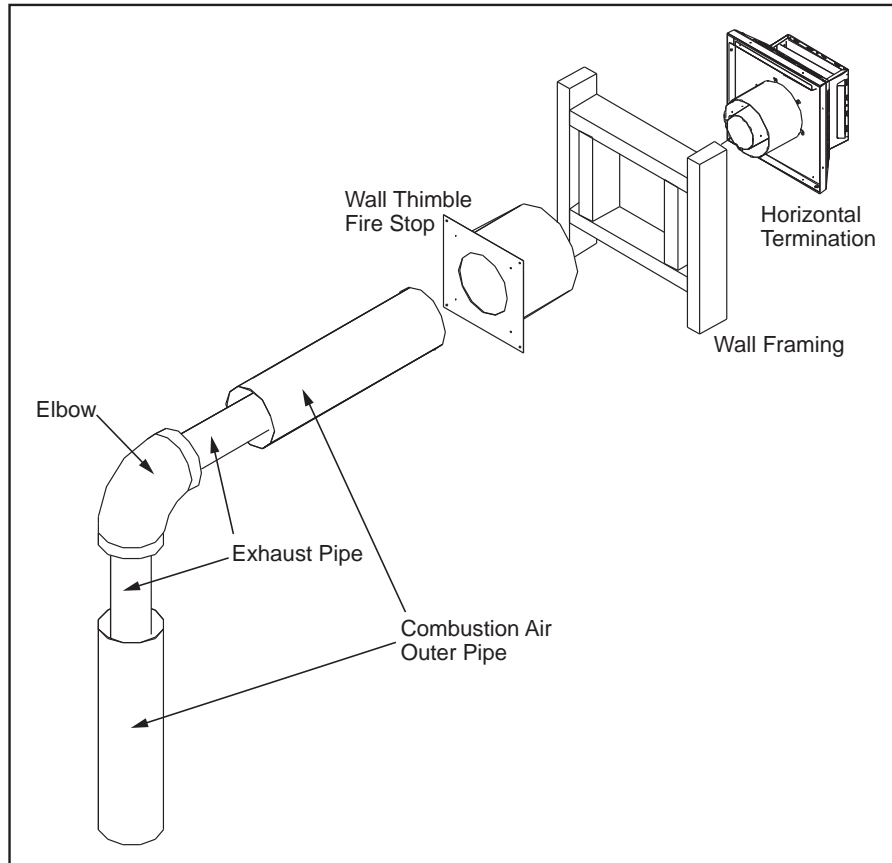

Figure 36: Horizontal Vent Termination
Step 3. With the pipe in the correct position and attached to the fireplace, mark the wall for a 10 inches (25.4 cm) x 10 inches (25.4 cm) square hole (see Figure 36). The center of the hole should match the center line of the horizontal pipe. Cut and frame the hole in the exterior wall where the vent will be terminated. If the wall being penetrated is made of a non-combustible material (i.e. masonry or concrete) a 7 inches (17.8 cm) hole is acceptable.